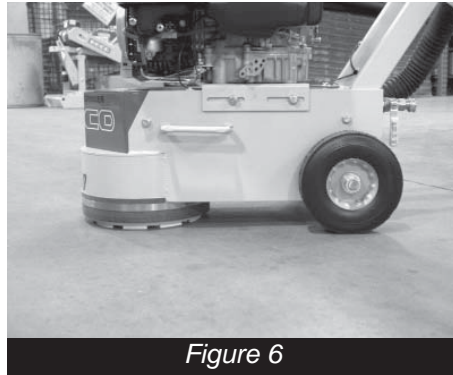

Figure 6
- Keep the grinding disc **flat** - do not attempt to grind against vertical surfaces. Be sure the machine is in the correct operating position. (See *Figure 6* below..)